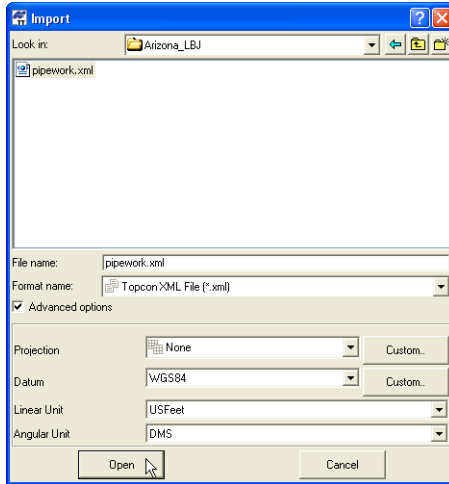

Figure 3-22. Import Topcon XML File
4. Select the desired *Advanced* options (Figure 3-22 on page 3-28): define the coordinate type, projection type, datum, and linear and angular units.